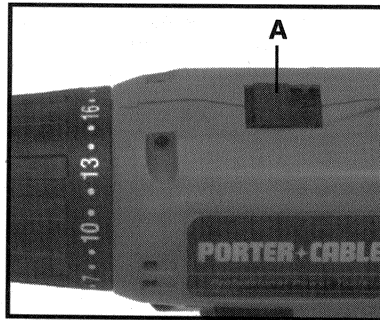

Fig. 4
The Model 830 Cordless Driver/Drill has a two-speed gear shift which provides spindle speed ranges of approximately: 0 to 350 RPM (LOW) and 0 to 1250 RPM (HIGH). To change speed ranges: release trigger switch to stop motor and then slide speed selector (A) Fig. 4, toward rear for HIGH speed or toward front for LOW speed.